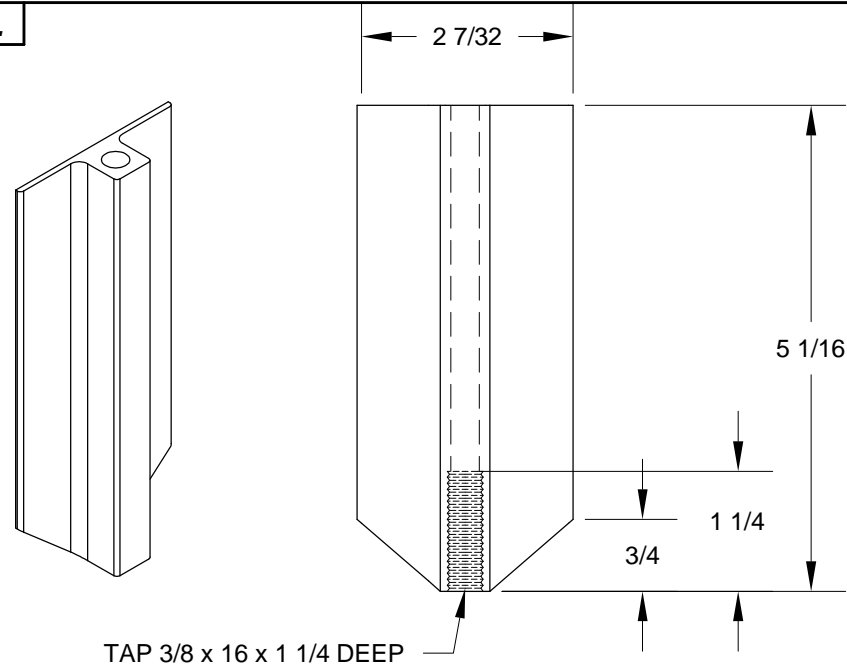

FIGURE 1: F-1012E TIE DOWN BAR
Step 1: Make the **F-1012E** Tie Down Bar from the length of AEX TIE DOWN X 7.500 provided in the kit. Trim to size, then tap as shown in Figure 1.